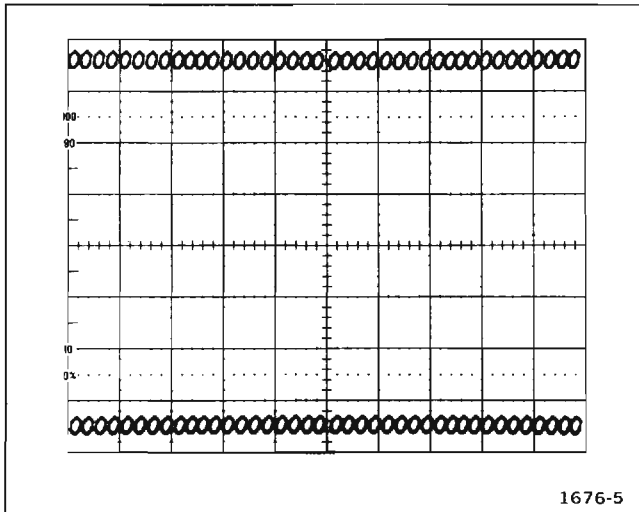

Figure 5-2. Readout display with Q2225 removed.
- EXAMINE**—The crt display for two rows of zeros, 40 zeros to a row with no character overlap. The two rows of zeros should be located vertically in the middle of the top and bottom divisions of the graticule (see Fig. 5-2).